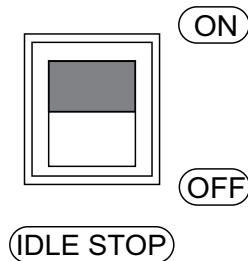

Figure 52. Idle Stop Selector Switch (ON)
- Place the idle stop selector switch (Figure 52) in the **ON** position.